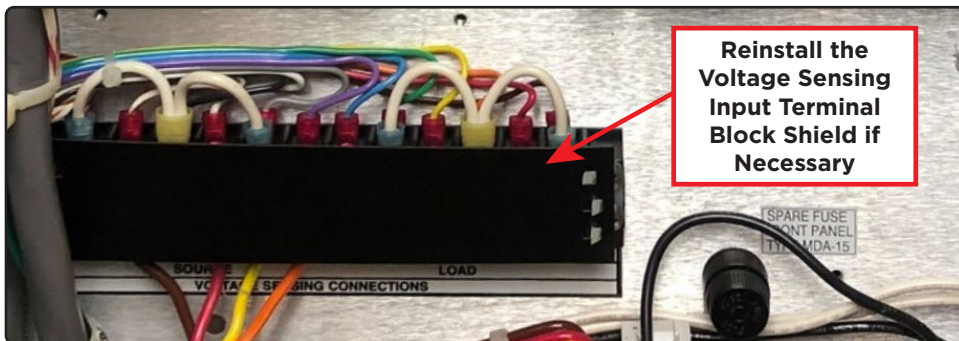

Figure 24 Optional Voltage Sensing Input Terminal Block Cover Shield
6. If the cover shield for the optional voltage sensing input terminal block was removed, make sure to reinstall the shield (Figure 24).